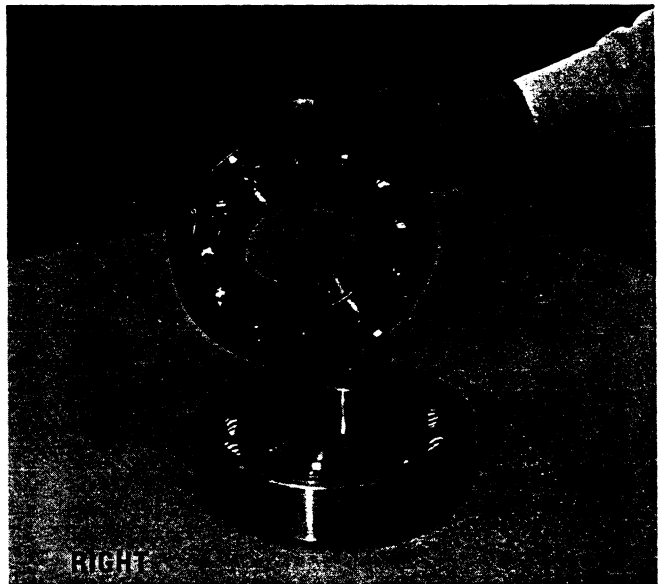
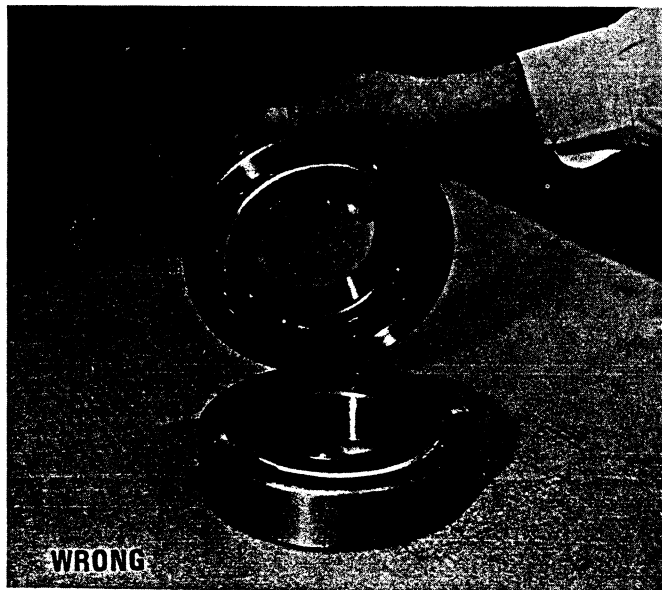

Figure 27
Figure 28
17. Install thrust bearings to each rotor "face to face" (this means with the large flanges of the inner races together in the middle of the bearing pack). Refer to Figure 27. Do not install other way. Refer to Figure 28. WARNING: - Do not, under any circumstances, strike or impact in any way the angular con-